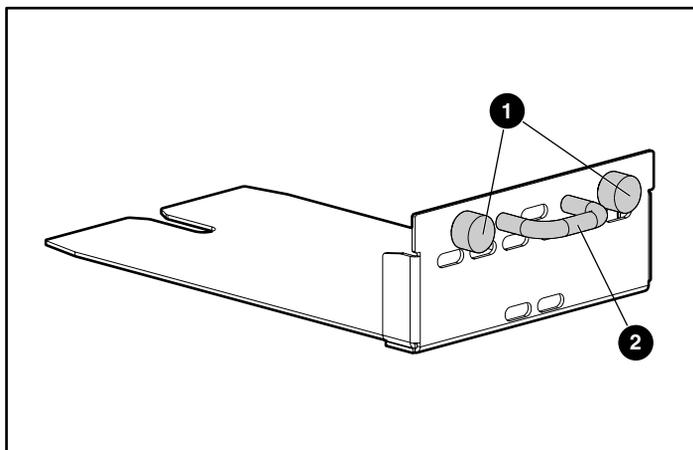

Figure 7-7: Thumbscrews and handle on an I/O module or blank module
2. Loosen the thumbscrews ❶ on the I/O module or blank module shown in Figure 7-7 in a counter-clockwise rotation.
3. Holding the handle ② shown in Figure 7-7, pull out the I/O module or blank module until it has completely cleared the I/O bay.